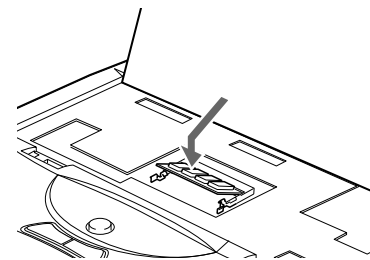

Figure 5-4 Installing a Memory Upgrade Module
4. Align the memory upgrade module with the part side up. Align the connector edge of the memory upgrade module with the connector slot in the compartment. The connector will be pointing toward the front of the notebook. (Figure 5-4.)
5. Insert the memory upgrade module at a 45° angle. (Figure 5-4.) Press the connector edge of the module firmly down and into the connector.